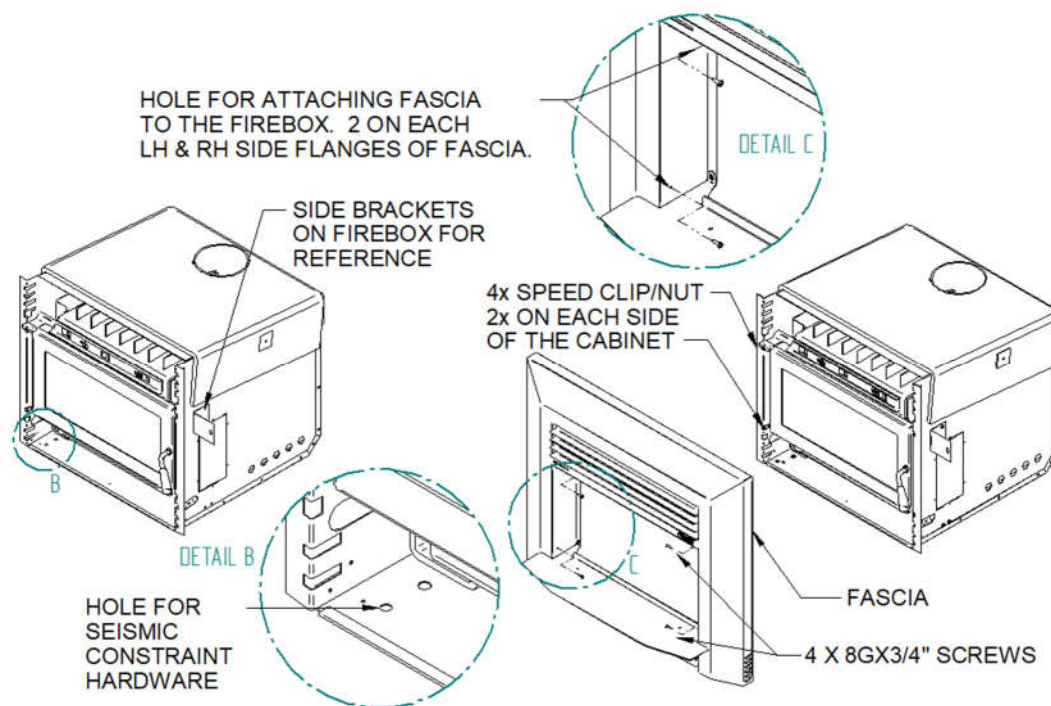

Fig. 7 - Seismic Holes, Side Brackets & Fascia Mounting holes
- Slide the case into the cavity and adjust its position so that flanges of the two side brackets are in line with the face of the fireplace surround. Refer Fig. 7
- In New Zealand, safety standards require that the woodfire be secured to prevent shifting in the event of an earthquake. **To provide seismic restraint**, screw the case to the base of the fireplace recess with at least two 6mm masonry anchors (Dynamolts) or equivalent. (Fasteners not supplied with the Rangitata firebox). Refer Fig. 7 for bolt location